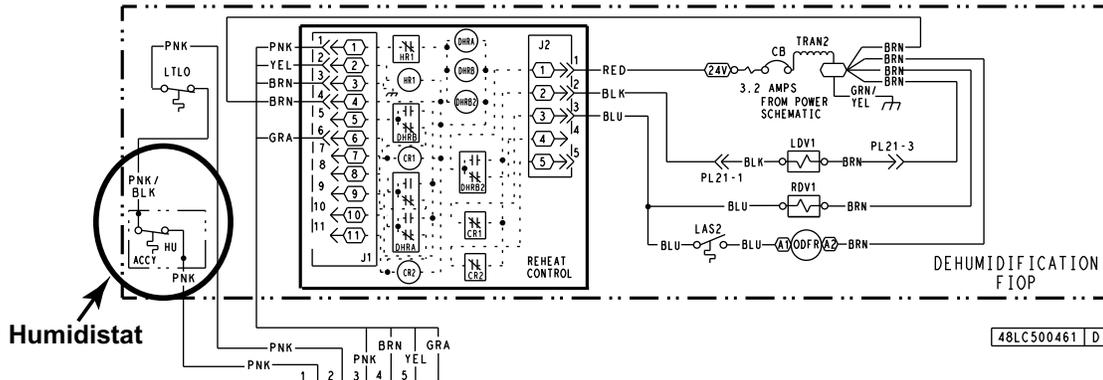

Fig. 54 — Typical Humidi-MiZer Adaptive Dehumidification System Humidistat Wiring
5. Use wire nuts to connect humidistat cable to the leads in the low-voltage wiring (as shown in Fig. 54), connecting PNK to PNK and PNK/BLK to PNK/BLK.